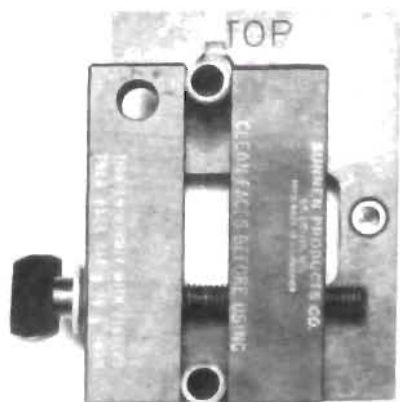

Fig. 23
2. Insert pins between setting blocks with ends of pins against plate of setting fixture and sides of pins even with ends of blocks. (Fig. 23).